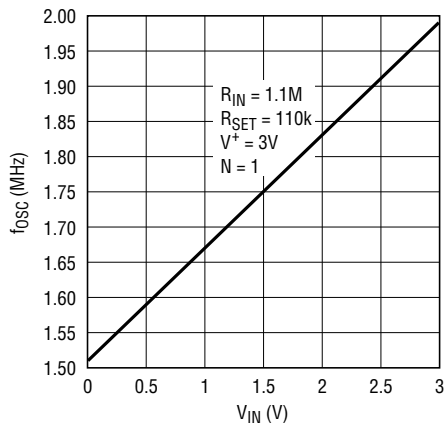

Figure 10. Output Frequency vs Input Voltage
Let $V^+ = 3\text{V}$, $f_{OSC(\text{MAX})} = 2\text{MHz}$ for $V_{IN(\text{MAX})} = 3\text{V}$ and $f_{OSC(\text{MIN})} = 1.5\text{MHz}$ for $V_{IN} = 0\text{V}$. Solve for R_{IN}/R_{SET} by Equation (2), yielding $R_{IN}/R_{SET} = 9.9/1$. $R_{SET} = 110.1\text{k}$ by Equation (4). $R_{IN} = 9.9R_{SET} = 1.089\text{M}$. For standard resistor values, use $R_{SET} = 110\text{k}$ (1%) and $R_{IN} = 1.1\text{M}$ (1%). Figure 10 shows the measured f_{OSC} vs V_{IN} . The 1.5MHz to 2MHz frequency excursion is quite limited, so the curve of f_{OSC} vs V_{IN} is linear.